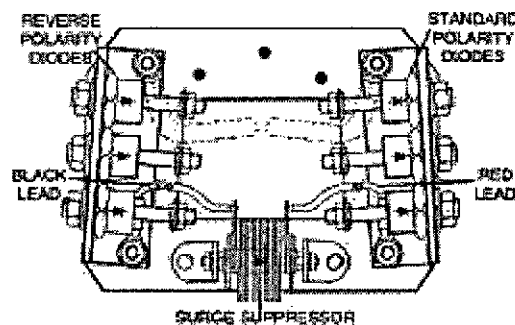

**Figure 6-33**
1. Clean dust and dirt from and rectifier assembly. (Figure 6-33) (See Section 5)